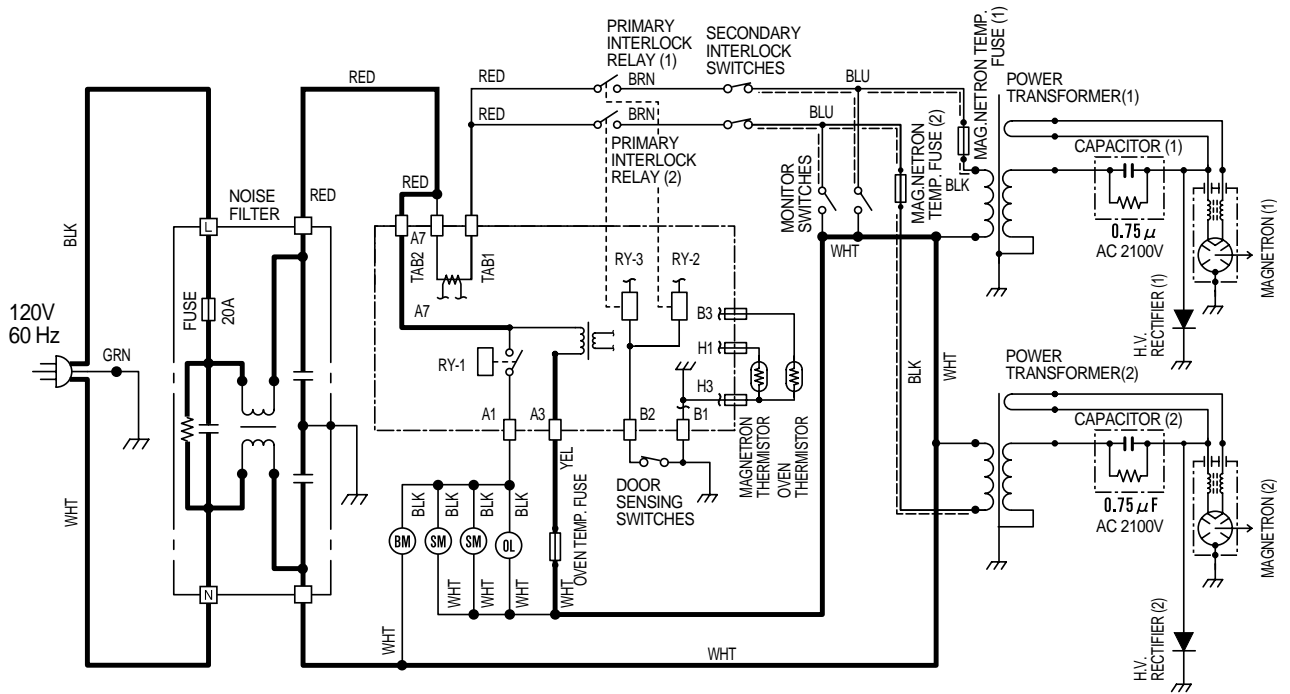

Figure O-1. Oven Schematic-OFF Condition
Closing the door activates the door sensing switch and secondary interlock switches (1), (2). (In this condition, the monitor switches (1) & (2) contacts are opened.) When the oven is plugged in, and the rated voltage is supplied to the control unit, (figure O-1), the display will show " . ".